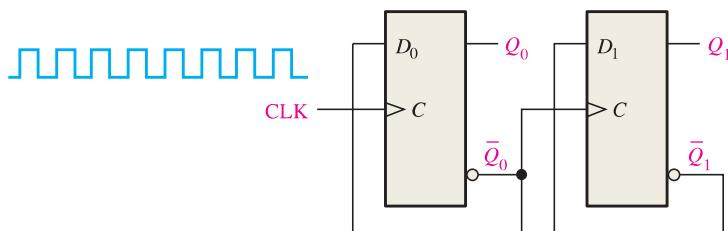

FIGURE 9–65
- For the ripple counter shown in Figure 9–65, show the complete timing diagram for eight clock pulses, showing the clock, Q_0 , and Q_1 waveforms.